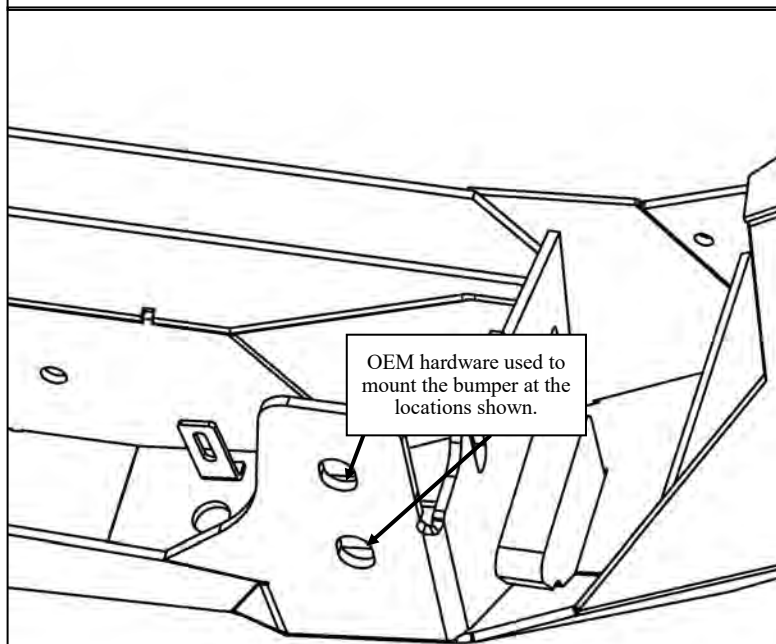

Figure 18
14. Using the OEM hardware, loosely secure the XTS rear bumper assembly to the OEM mounting locations. See **Figure 18** for reference. **Note:** Assistance may be needed to lift the bumper onto the vehicle.